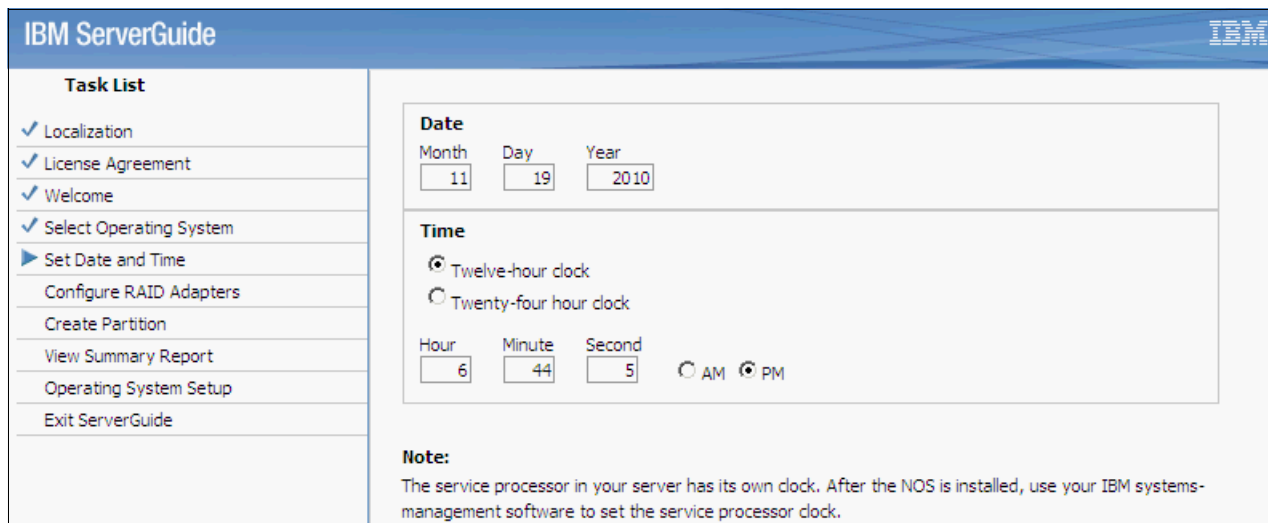

Figure 9-50 Date and time settings
10. Enter the current date and time and click **Next**, as shown in Figure 9-50 on page 503.